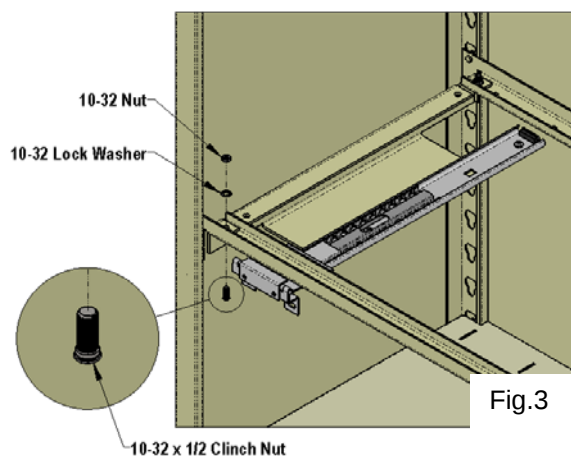

Fig.3
Attach the bracket assembly to the shelf supports, making sure bracket flange is on the top of the support. Using two (2) #10-32 x 1/2 self clinching bolts, nuts, and lock washers on each bracket. (See Fig.3) Repeat for the opposite side.